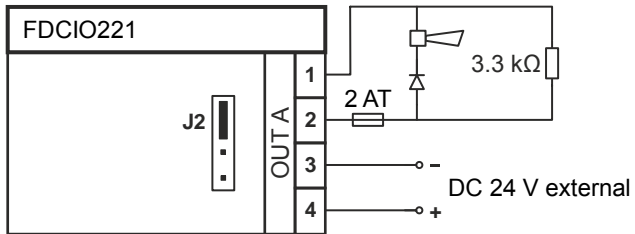
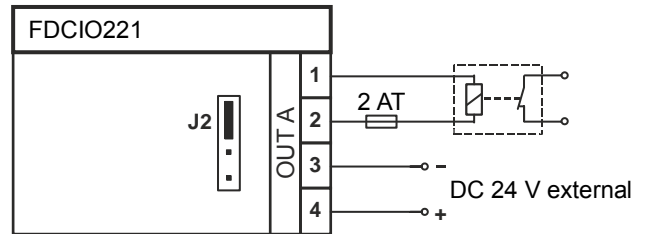
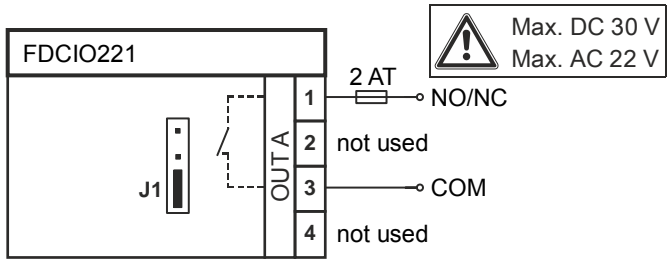

Fig. 9
Fig. 10
Fig. 11
- 'Normal operation' output: Fig. 9
- 'Inverted operation' output: Fig. 10
- Output not monitored: Fig. 11
- DC 24 V supply: Fig. 9/Fig. 10
4. Connect the jumper to J1/J2 depending on how the output is being used and connect the additional components as shown in Fig. 9, Fig. 10 or Fig. 11. Be sure to connect the resistor (Fig. 9) at the end of the line.